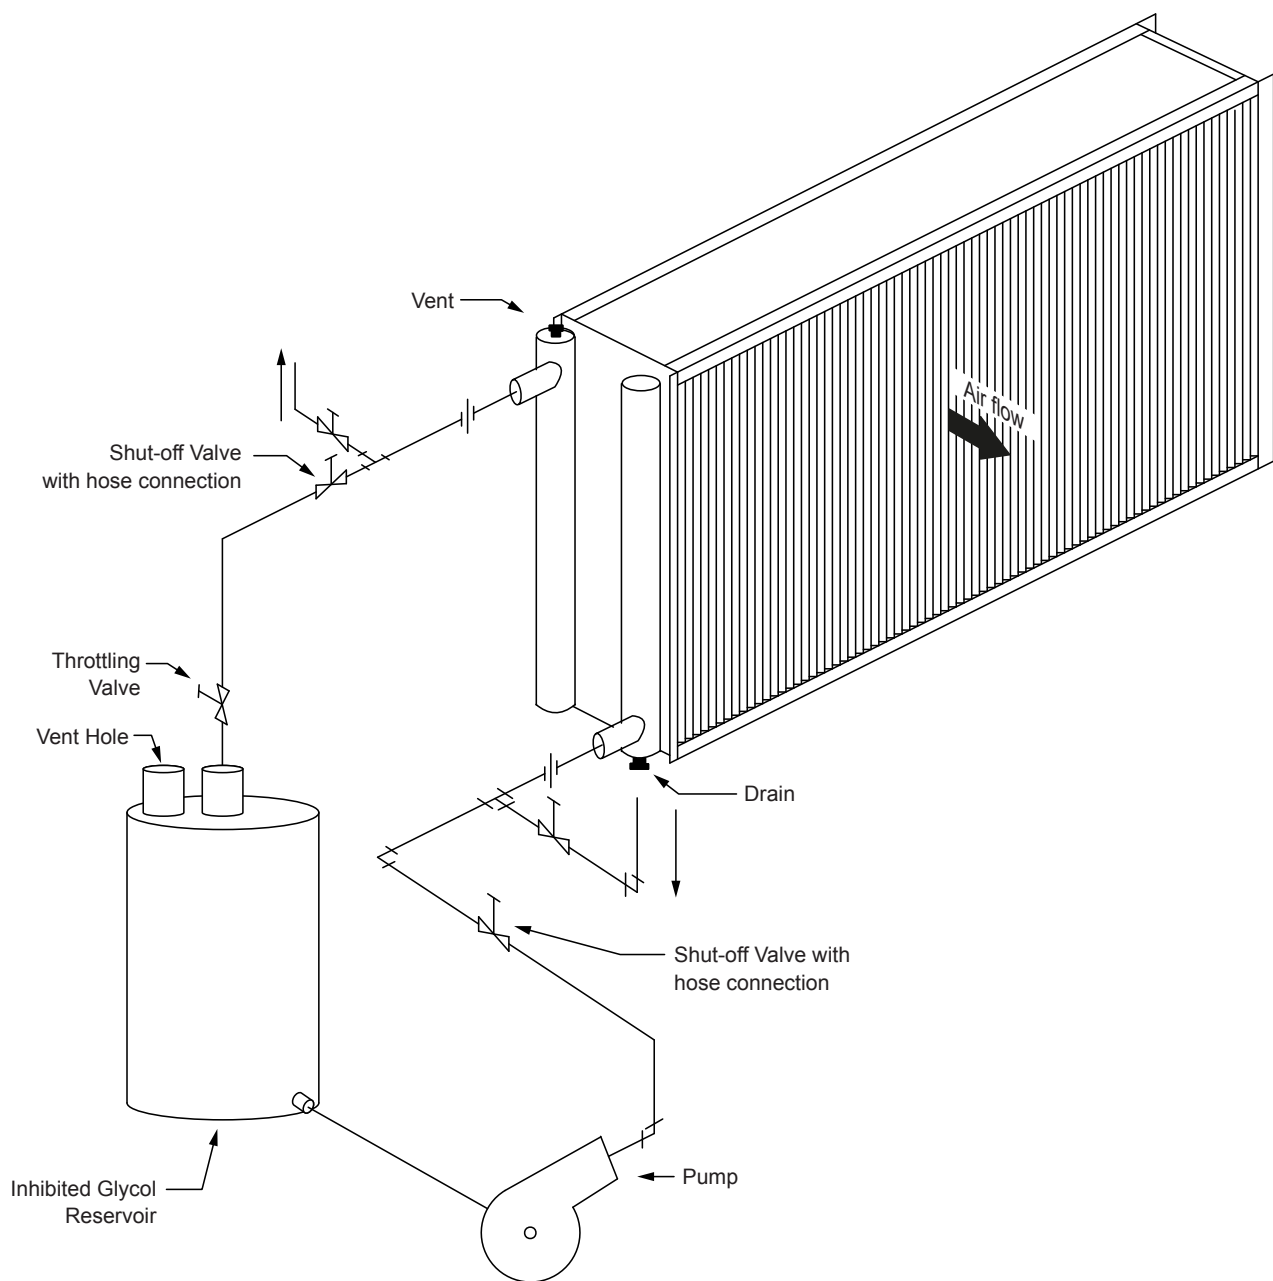

Fig. 19: Coil flushing system diagram
4. Connect the flushing system to the coil. A typical system is shown in Fig. 19.